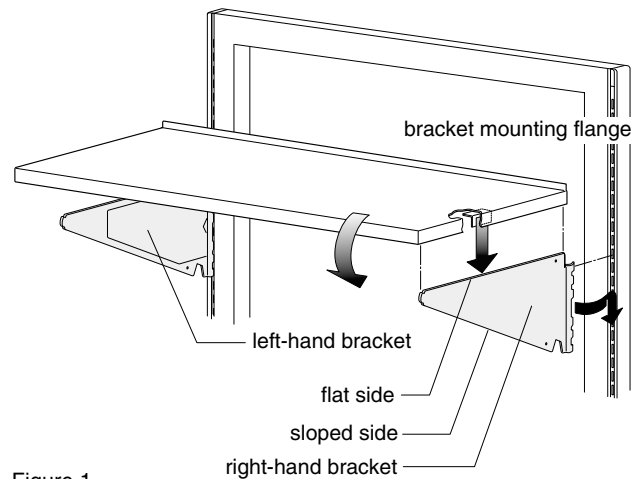

Figure 1
1. With the flat side up, engage the left-hand end support bracket into the left-hand side of the frame at designated height. Push down to securely set. Repeat with the right-hand bracket into the right-hand side of the frame. (Figure 1)
2. Place the fronts of the end support brackets under the front lip of the shelf, making sure that both end brackets are positioned between the shelf ends and the bracket mounting flanges. Push the rear of the shelf down to securely seat in the brackets' rear cut-outs. (Figure 1)